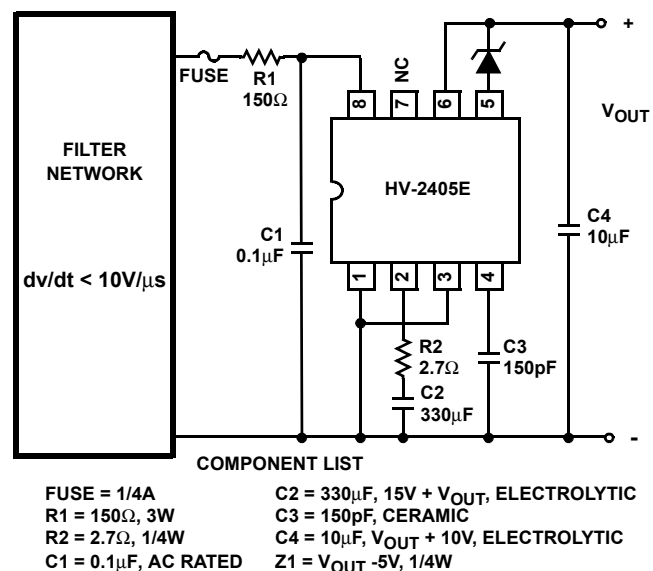
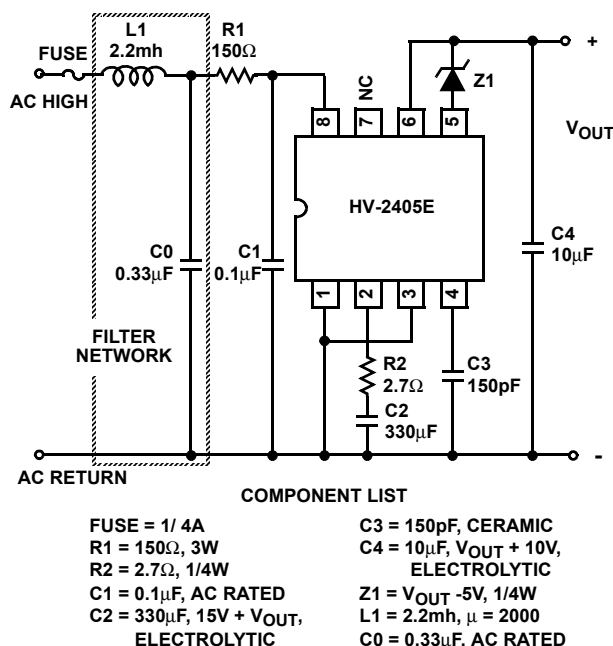

FIGURE 7. IMBEDDED SUPPLY I_{OUT} ≤ 30mA
FIGURE 8. IMBEDDED SUPPLY WITH EMI FILTER ($I_{\text{OUT}} \leq 30\text{mA}$)
For applications requiring 30mA or less and not directly off line (i.e. filter network preceding supply), the external transistor and associated resistors in Figure 1 can be replaced with a single 1/4W resistor R2 and capacitor C3 (Figure 7) if: (1) The filter network reduces the input dv/dt to less than 10V/μs (ensures sufficient pin 2 voltage at turn off), (2)
For applications where EMI (conductive interference) is a design requirement, the circuit shown in Figure 8 is the recommended application circuit. This circuit delivers an output voltage of 5V to 24V with an output current from 0 to 30mA and passes VDE 0871 class "B" test requirements for conductive interference with a resistive load.
The circuits shown in Figure 7 and Figure 8 provide a regulated 5V to $24V_{\text{DC}}$ output voltage that is set by adjusting the value of Z1. The output voltage of the HV-2405E (pin 6) is set by feedback to the sense pin (pin 5). The output will rise to the voltage necessary to keep the sense pin at 5V. The output voltage is equal to the Zener voltage (V_{Z1}) plus the 5V on the sense pin. For a 5V output, pin 5 and pin 6 would be shorted together. The output voltage has the accuracy
C2 is charged once each line cycle. The post regulator section of the HV-2405E is powered by C2 for most of the line cycle. If the application requires a smaller input voltage, the value of C2 can be reduced from that shown in Figure 7 or Figure 8 (see section on "Optimizing Design" for details. Note; capacitors with high ESR may not store enough charge to maintain full load current. The voltage rating of C2 should be about 10V greater than the selected V_{OUT} .